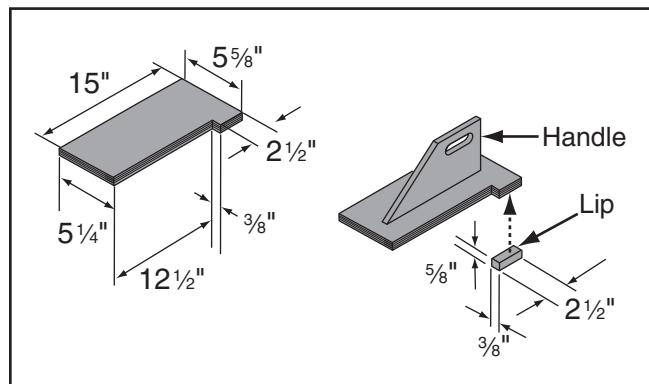

Figure 91. Push block dimensions and construction.
3. Using $\frac{3}{4}$ " material you used in previous steps, cut out pieces for push block per dimensions shown in **Figure 91**; for handle, cut a piece 10" long by 5"-9" high and shape it as desired to fit your hand.